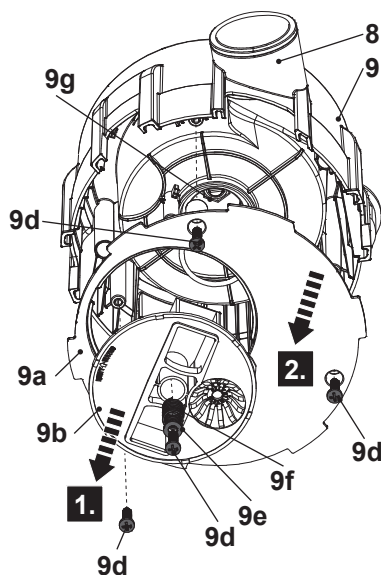

Fig. 9
If excessive deposits collect in the base, dismantle the function cover (9b), the bottom plate (9a) from the base (9) and clean the components (Fig. 9).
1. Loosen the screw (9d) anti-clockwise with a proper screwdriver and remove it together the washer (9e), the spring (9f), and the function cover (9b) (Fig. 9, step 1).
2. Loosen the other three screws (9d) anti-clockwise with a proper screwdriver and remove the screws together with the bottom plate (9a) from the base (9) (Fig. 9, step 2).
4. Clean the bottom plate (9a), the function cover (9b), the base (9) and the outlet nozzle (8) if needed.